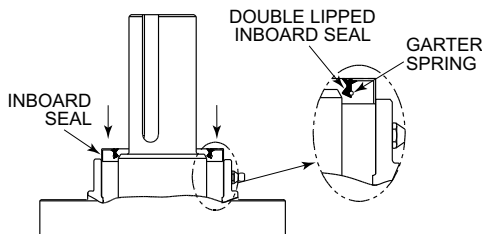

Figure 6.2.2.1 Orientation of Inboard Seal for Installation
3. Place the ring on the seal. Reference **Figure 6.2.2.2**.